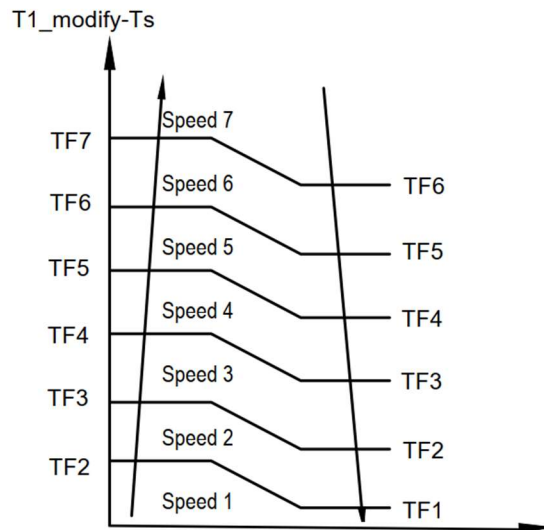

Figure 4.1 Air supply mode auto fan speed judgment diagram in fan only mode
In fan only mode, if the fan speed is set to auto, the fan speed will be determined according to Fig. 4.1.
1. In Figure 4.1, the temperature points from bottom to top have " $\geq$ ", while from top to bottom have " $<$ ".